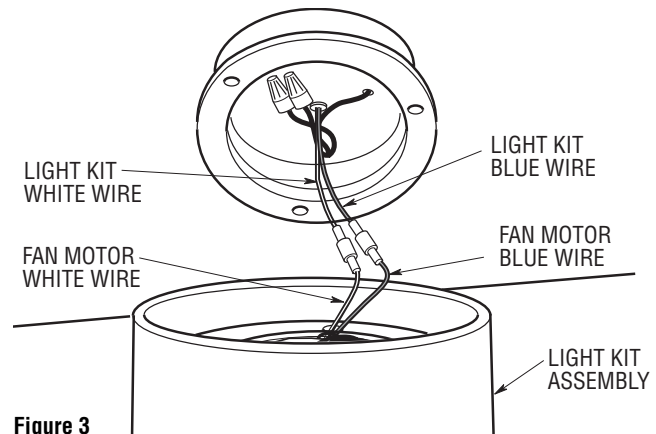

Figure 3
- 4. Connect the fan motor blue wire to the blue wire from the light kit assembly; connect the fan motor white wire to the white wire from the light kit assembly (Figure 3).